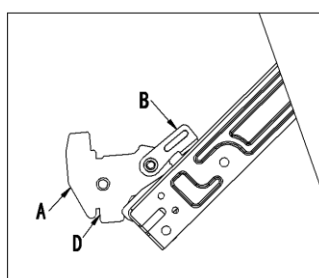

Fig.11-1
- ☞ Open the door completely and lift the 2 levers “B” (fig.11-1);